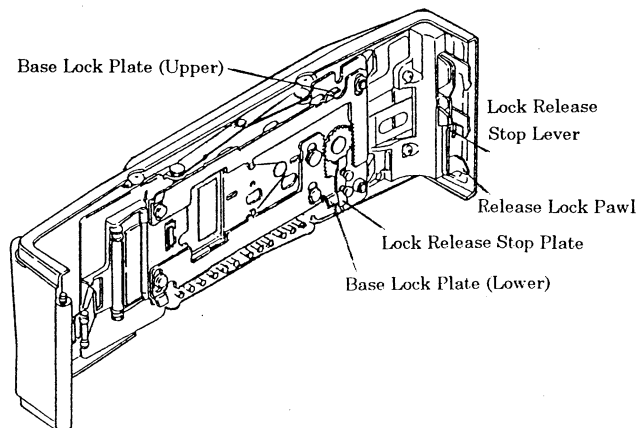
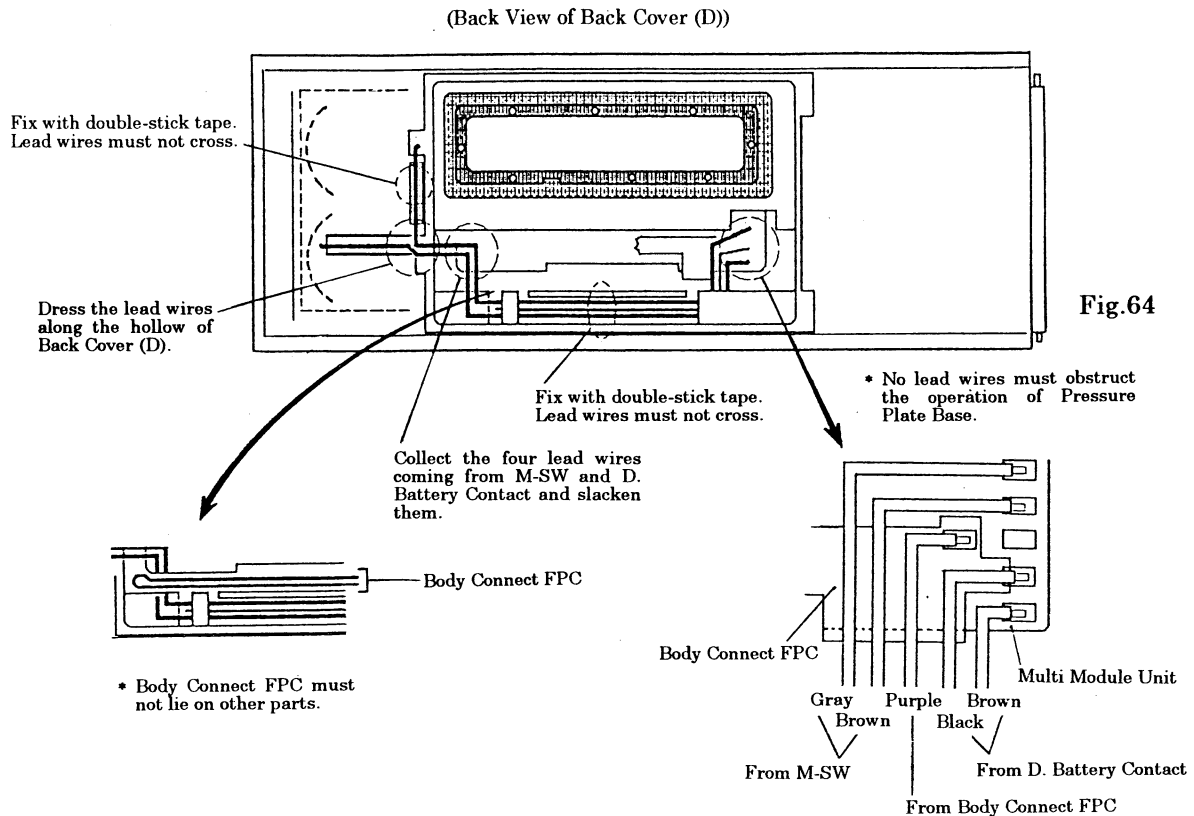

Fig.63
Fig.64
- The Back Cover Panel is fixed to the Back Covering with the Panel Tapes (1) (2DA23600) × 2 and Panel Tape (2) (2DA23700) × 2.
- 6) Peel off the M-SW Name Plate (2DA21000) and remove the Back Covering Setscrews (69313066) × 2 ② through the holes in the Lock Release Plate Cover. Move the Release Lock Pawl downward (see Fig. 63), remove the Back Covering Setscrews (69113566) × 4 ③ through the hole in the Pressure Plate Base and separate the Back Covering (2DA21710) from the Back Cover (D).
- 8) Unsolder the Black and Red lead wires (from D. Battery Contact) on the Multi Module Unit. (See Fig. 64) After that, remove the D. Battery Contact Ass'y (2DAE2000).
- The D. Battery Contact Ass'y is fixed to the Back Cover (D) with double-stick tape.
- 9) Unsolder the Gray and Brown lead wires (from M-SW) on the Multi Module Unit. (See Fig. 64)
- 10) Remove the Pressure Plate Base Ass'y Setscrews (66001189) × 3 ④ and take off the Pressure Plate Base Ass'y (2DAB2000) from the Back Cover (D).
- 12) Push the Lock Release Stop Lever with tweezers or the like and also push the Lock Release Stop Plate. (See Fig. 63) Remove the Module Cover Setscrews (69313066) × 4 ⑤ and Date Contact Holder Setscrews (69313066) × 2 ⑥ and take off the Base Reinforcement Plate (2DA24500), Module Cover (2DA21400) and Light Shield Rubber (2DA21900) from the Pressure Plate Base Ass'y.
(See Fig. 63)